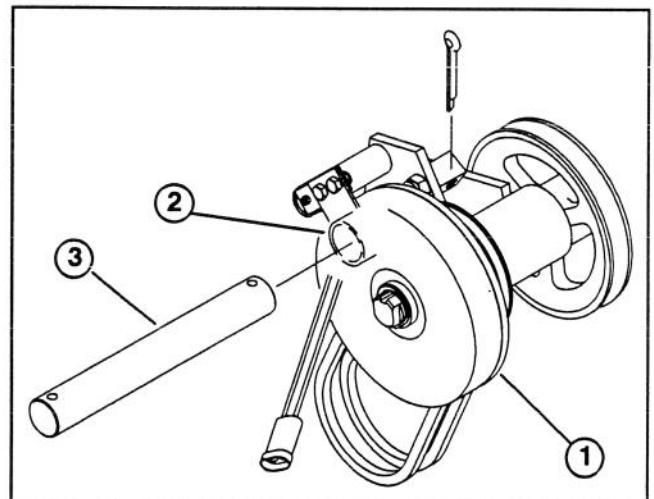

Figure 5
25. Place V-belts (matched set included with kit) into groves of clutch pulley (Fig. 5).
26. Insert pivot shaft into tightener bracket tube of clutch assembly (Fig. 5).
27. Slide shaft through tube and install a cotter pin into shaft at pulley end of tube (Fig. 5).
28. Push pivot shaft thru tube until clutch end of shaft is flush with clutch end of tube (Fig. 5).